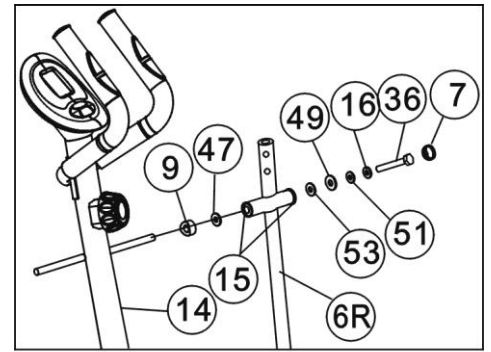

Figure 6
- Attach one Arc spacers (9) and Wave washer (28) to the right end of horizontal axle of Front upright frame (14). (make the gouge of the arc face inside)
- Insert right Handlebar support (6R) to the right end of horizontal axle of Front upright frame (14) (the long side of the handlebar face inside) and secure it with one Plastic flat washer (53), $\Phi 8$ Big washer (49), $\Phi 8$ spring washer (51), M8 Special washer (16), and M8 \times 16 Bolt (36).
- After assembled the Nut cap (7) to the M8 \times 16 Bolt (36), the right Handlebar support (6R) can move freely.
- Do the same steps as the above to assemble the left Handlebar support (6L). (Refer figure 6)